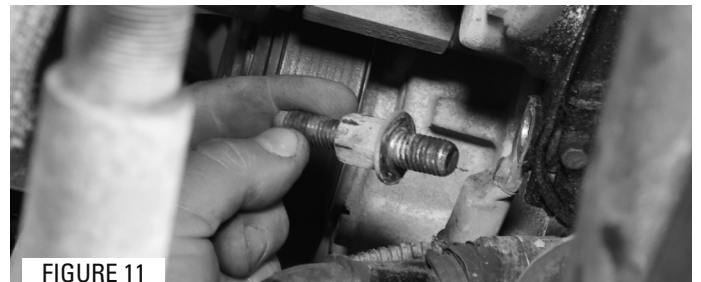

FIGURE 11
- 11** Remove ground stud bolt using a 15mm socket (passenger side front of block). (Figure 11)